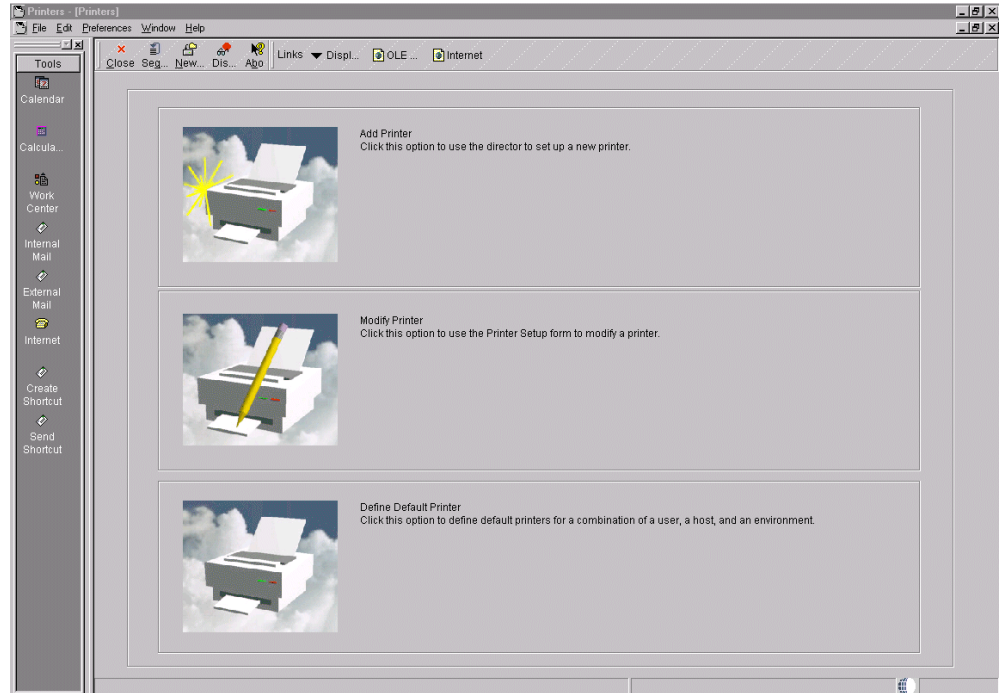

Figure 187. Work with physical printers menu (Part 1 of 2)
3. From the Printers menu, double-click the **Work With Physical Printers** option to select it (Figure 187).
8. Choose the proper Printer Definition Language for your printer (if you choose Line Printer, the proper parameters must be set), if more than one definition is selected make sure you properly indicate the appropriate Default. If you want to verify the proper conversion string, choose **Custom**. Then, from the Form menu, choose **Advanced**. To know what the appropriate conversions strings are, reference the *OneWorld System Administration Guide* for B73.3.2. Then, click the **End** button on the tool bar. This takes you back to the display shown in Figure 187 on page 399.